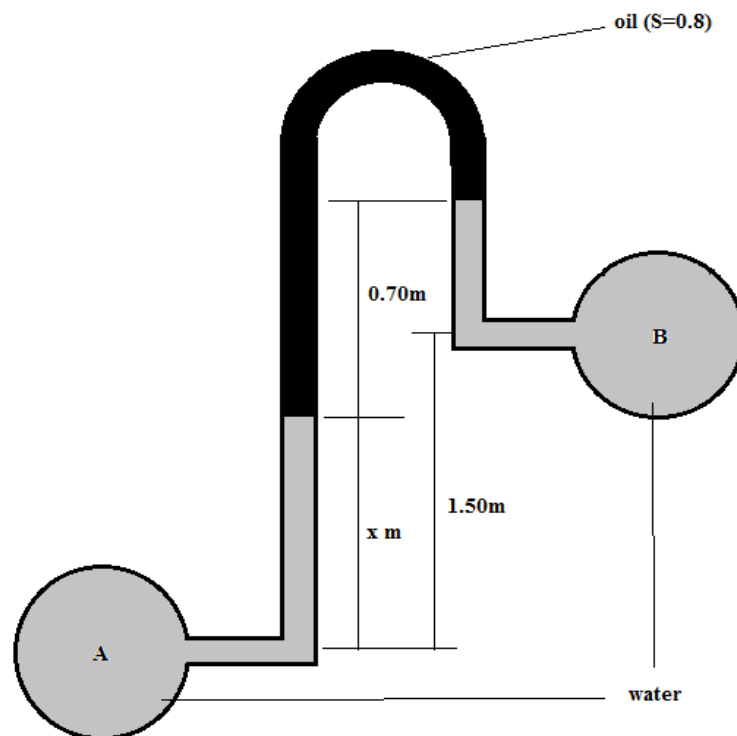

Figure 16
5. Find the pressure difference between A and B in  $\text{KN/m}^2$  for figure 16.